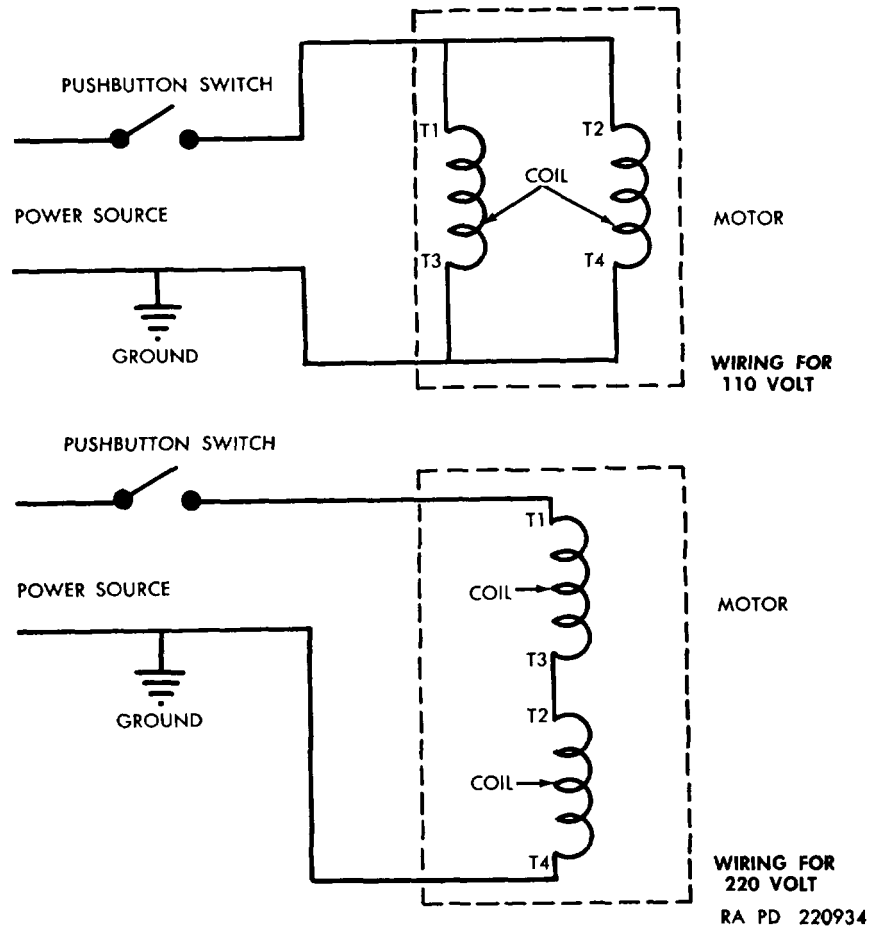

Figure 21. Wiring diagram.
*m.* Check each field coil for open circuit with test lamp circuit of growler. Connect the test probes to T1 and T3 or T2 and T4 (fig. 21) separately, with the test lamp in series with the line and motor cables. If lamp does not light, replace the motor field.
**Note.** Check the motor connecting cables to be sure they each have attached a small tag stamped with the identification T1, T2, T3, and T4 (fig. 21).
- (1) For a 110-volt power source connection, the motor connecting cables with the tags T1 and T2 must be connected together as shown in the wiring diagram (fig. 21). The motor connecting cables with the tags T3 and T4 must
- (2) For a 220-volt power source connection, the motor connecting cables with the tags T2 and T3 must be connected together as shown in the wiring diagram (fig. 21) and the ends securely taped and covered. The motor cables T1 and T4 are then connected to the motor cable (fig. 12) and securely taped and covered.